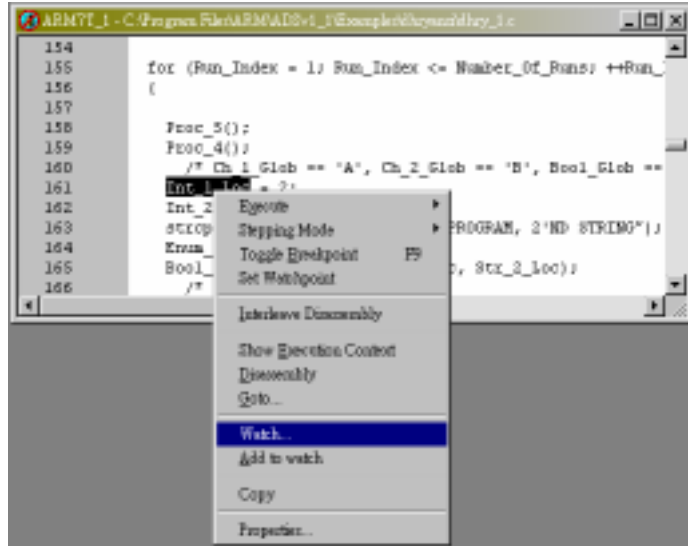

Figure 15. Add a variable to the Watch view by selecting it in the source view.
- You can also add a variable to the Watch view by selecting it in the source view using **right-clicking** and selecting **Watch**, as show in Figure 15. And then using the **Add Watch** pop-up menu command. ← Try this.